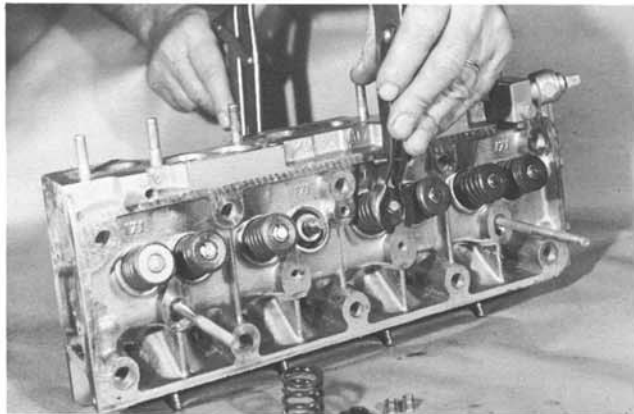

FIGURE 5. REMOVING VALVE SPRINGS AND VALVES
- Using a "C" type valve spring compressor, remove the valve springs, retainer locks, and retainers placing all parts in a container of solvent (Figure 5).